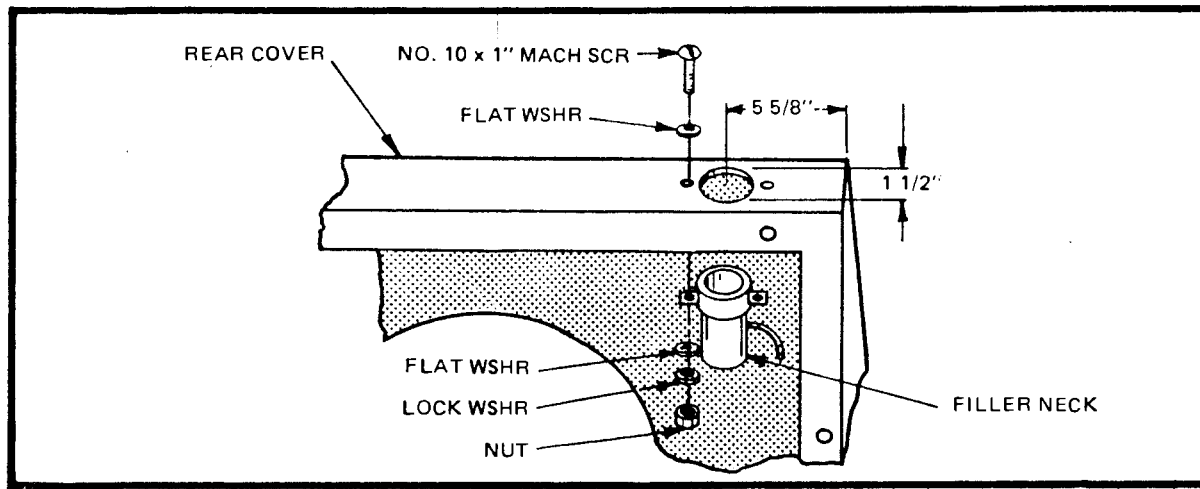

Figure 54
- to cover with No. 10 x 1" machine screws with 2 flat washers, lock washer and nut. (Figure 54)